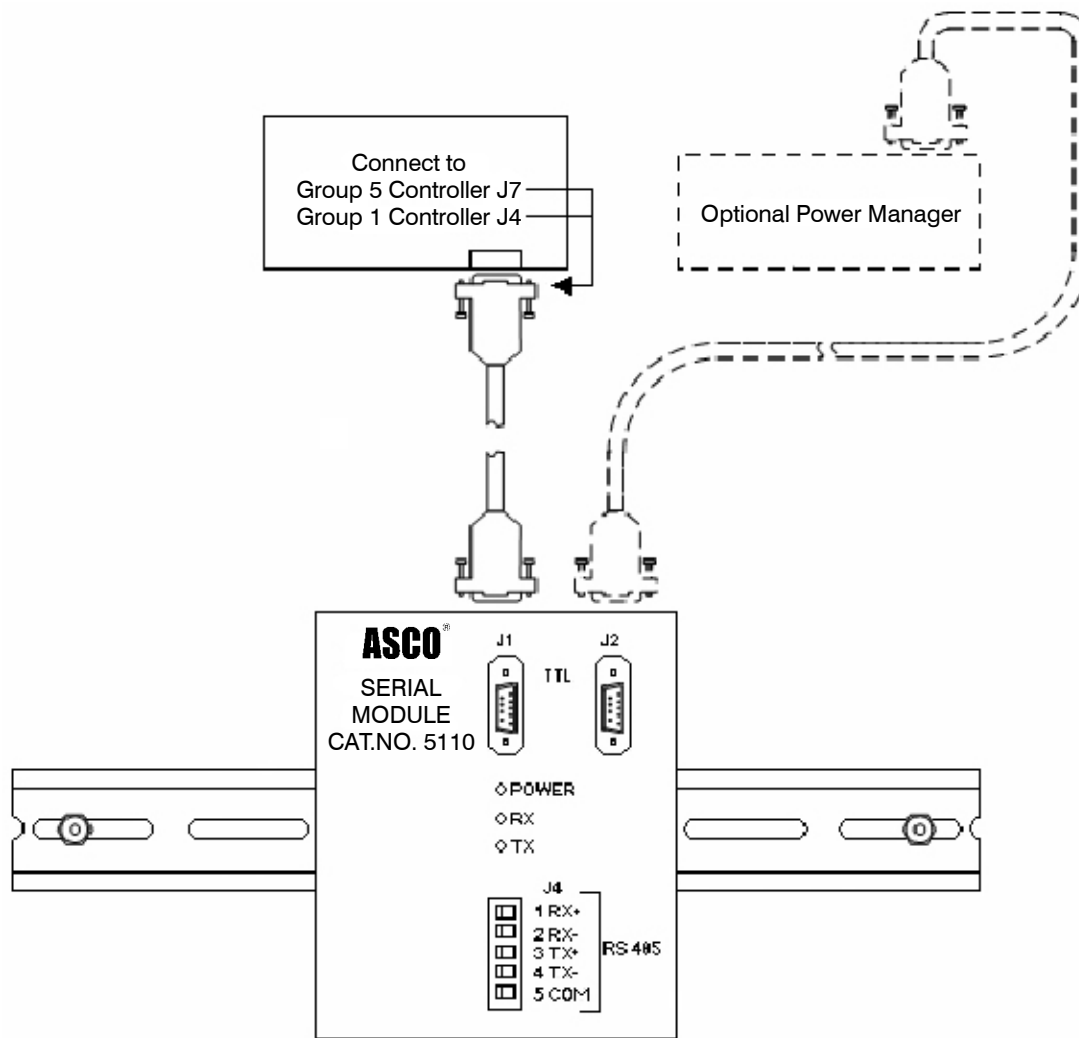

Figure 2. Serial Module connections to ATS Controller and Power Manager..
2. If a Power Manager is present, connect the 4-foot serial cable between Power Manager receptacle J5 and the Serial Module receptacle J2* (see Figure 2).